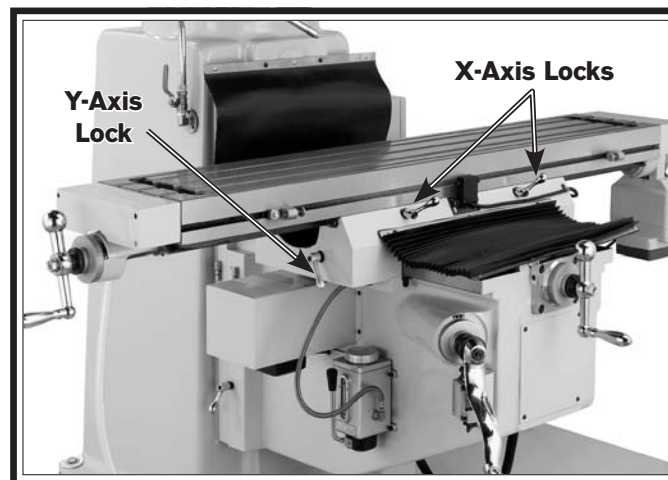

Figure 22. Locations of the X- and Y-axes table locks.
Refer to **Figures 22–23** for the locations of the locks used to secure the table in place.
1. Loosen the X-axis table locks (refer to **Figure 22** on **Page 29** for locations).